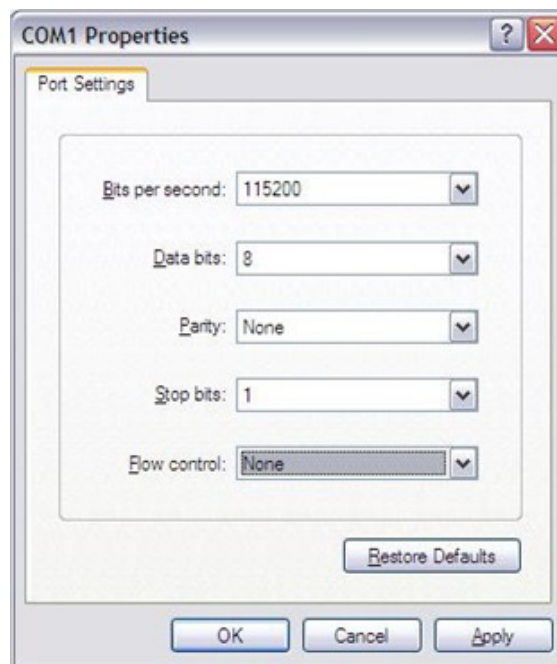

Figure 2.13 Hyper Terminal Settings for Terminal Setup
2. Open Hyper Terminal on your Windows PC, and select the settings as shown in Figure 2.13